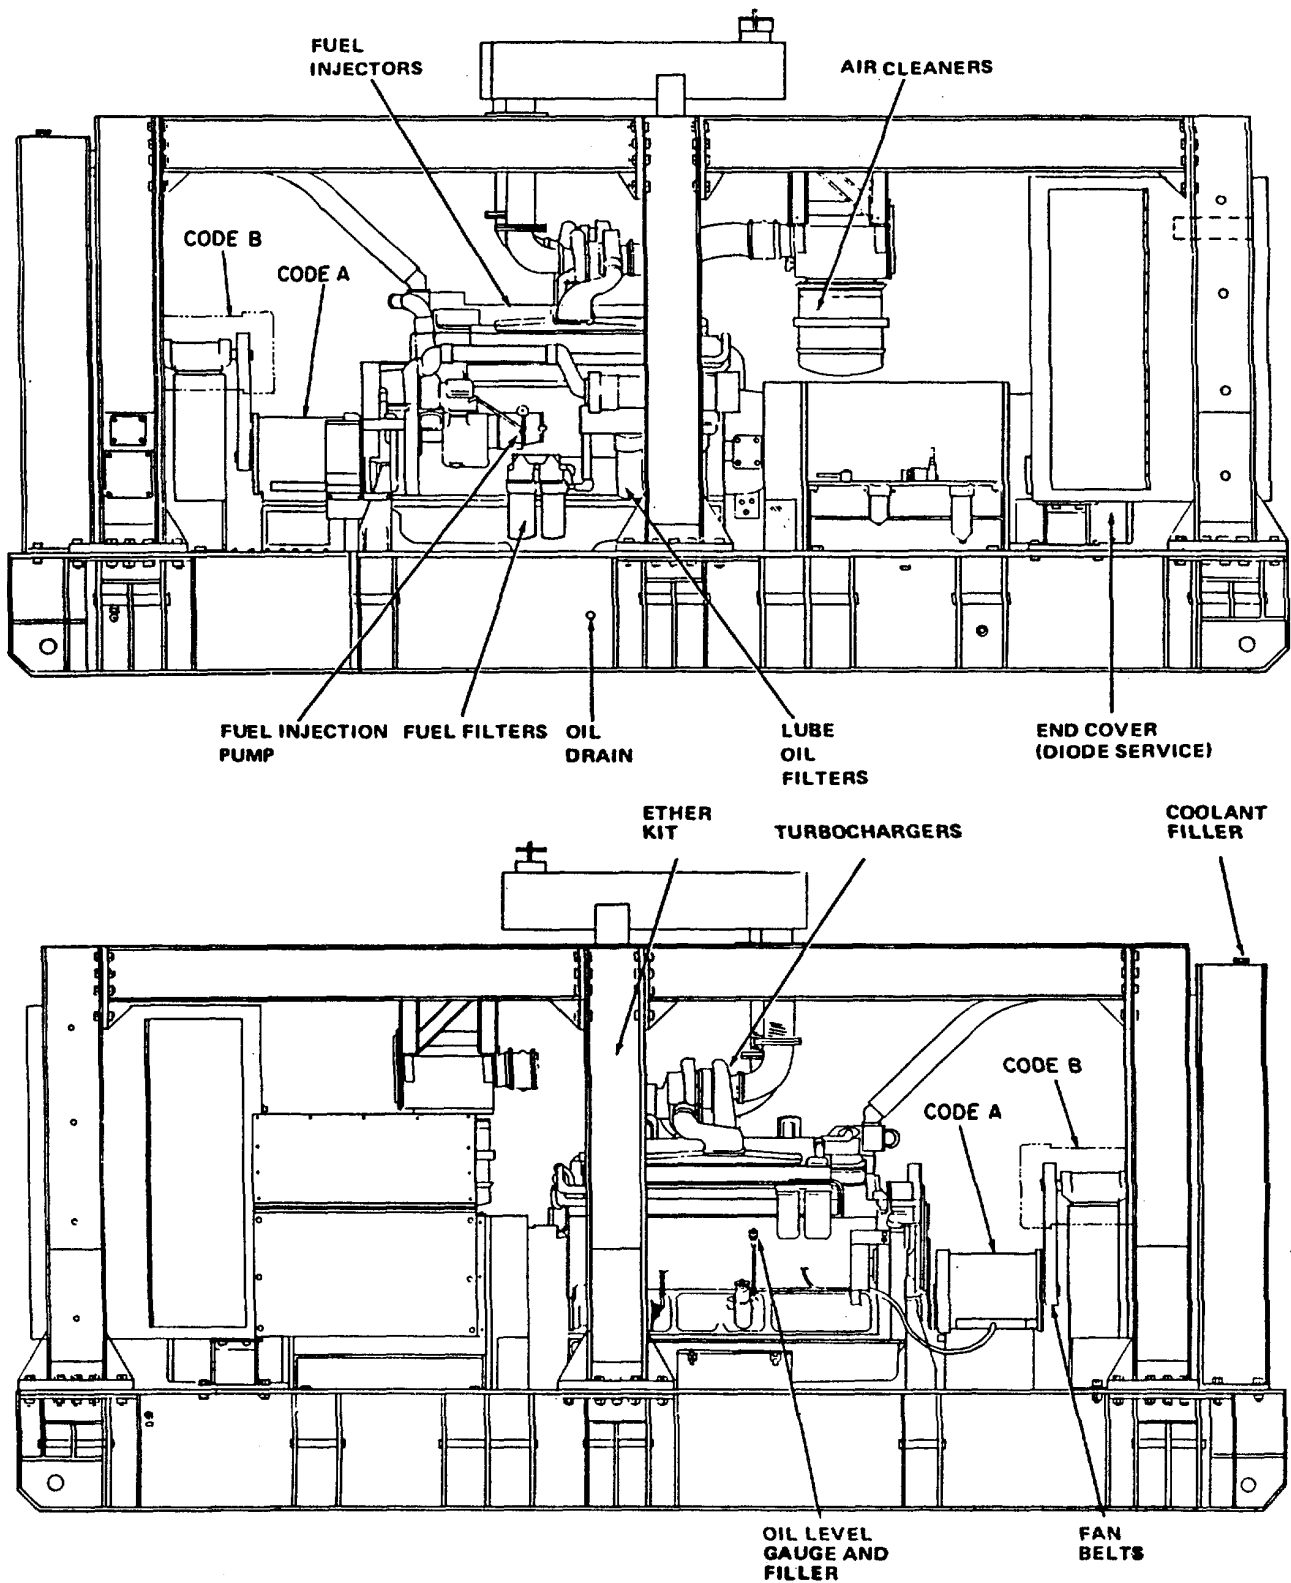

Figure 17-25. Service Points on 500 KW Generator Set
**17-86.** Service items that are hard to reach will not be properly maintained. Make sure ample room is provided around the set especially at points requiring regular attention. Figure 17-25 illustrates the location of items